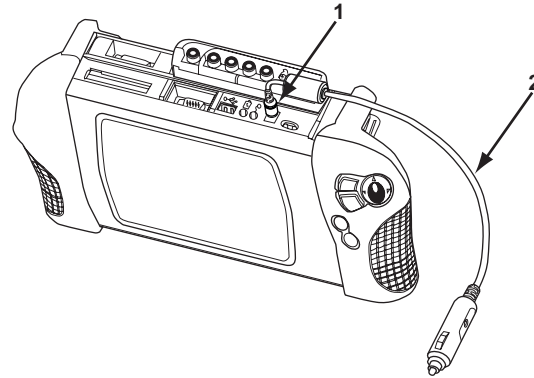

Figure 3-2 Sample Vehicle auxiliary power cables connected
1. Plug the 2.5 mm end of the Lighter Power Cable into the DC power supply input located on top of the MODIS™ unit (Figure 3-2).